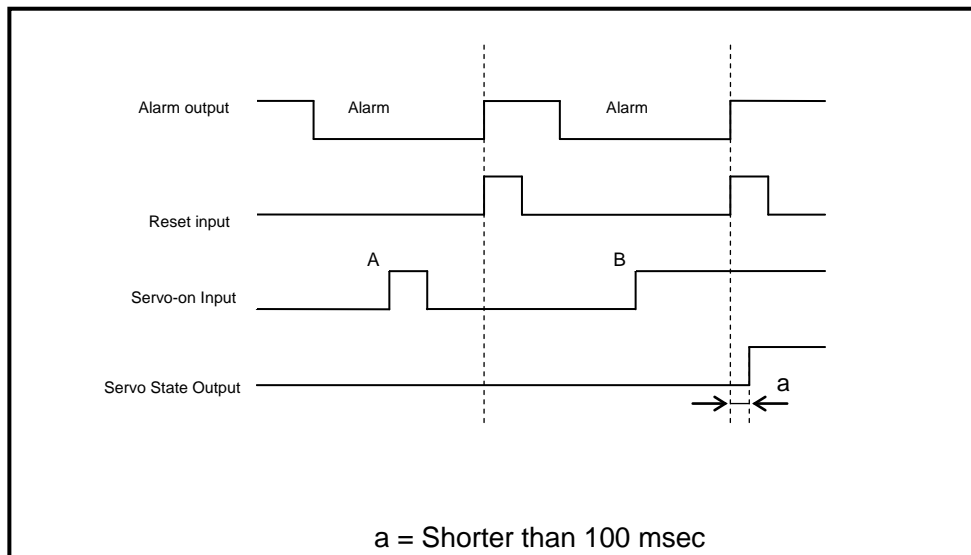
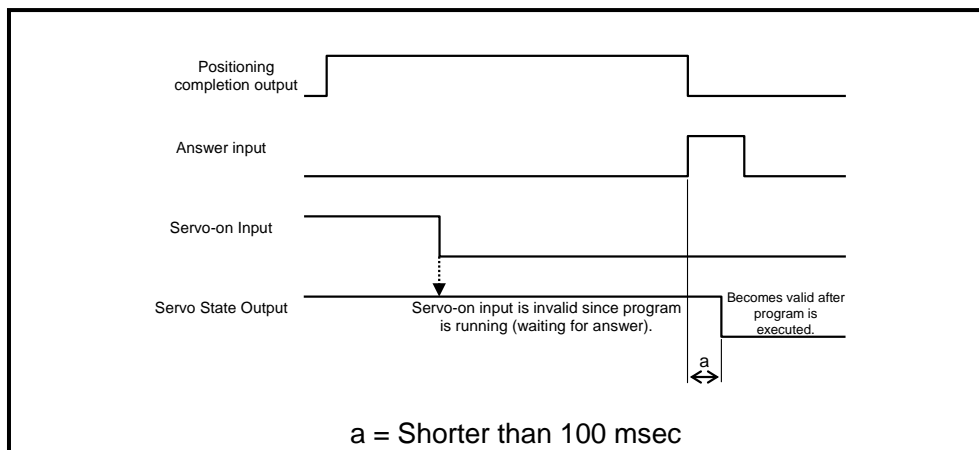

Fig. 5.12 Servo-on input when an alarm is triggered
Fig. 5.13 Servo-on input when program is running
- If this signal is set to OFF (servo-off) while the program is running (rotating, waiting for an answer on position completion, etc.), ABSODEX will go into servo-off state after the program is completed. (Fig. 5.13)
- (A) The servo-on input is invalid in an alarm and in an emergency stop input.
(B) In an alarm and in an emergency stop input, with the servo-on input on, after an alarm reset (or emergency stop release), a servo-on state is set. (Refer to Fig. 5.12)